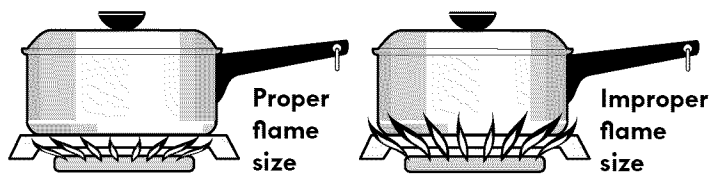
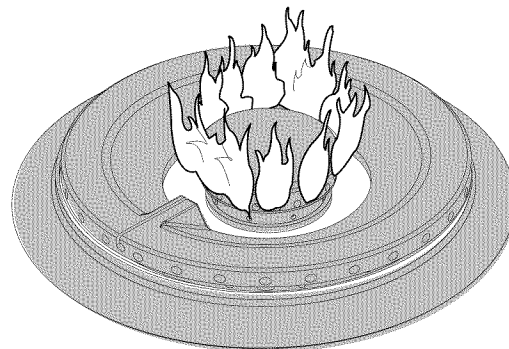

Figure 1
Figure 4 - Inner ring only lit
The burner cap lip (See Fig. 1) should fit snug into the center of burner head and rest level. Refer to Figs. 2 & 3 for correct and incorrect burner cap placement. Once in place, you may check the fit by gently sliding the burner cap from side to side (Fig. 4) to be sure it is centered and firmly seated. When the burner cap lip makes contact inside the center of the burner head you will be able to feel it. Please note that the burner cap should **NOT** move off the center of the burner head when sliding from side to side.
Never extend the flame beyond the outer edge of the utensil. A higher flame wastes heat and energy and increases your risk of being burned by the flame (Figure 1).
5. When adjusting for a low or simmer type flame setting, continue to rotate the control knob counterclockwise from MED setting towards LO (See Figure 1). Between the MED and LO settings, the flame for the outer ring portion of the burner will turn off leaving only the inner burner with a flame for simmering (See Figure 4). Make any further flame adjustments as needed.